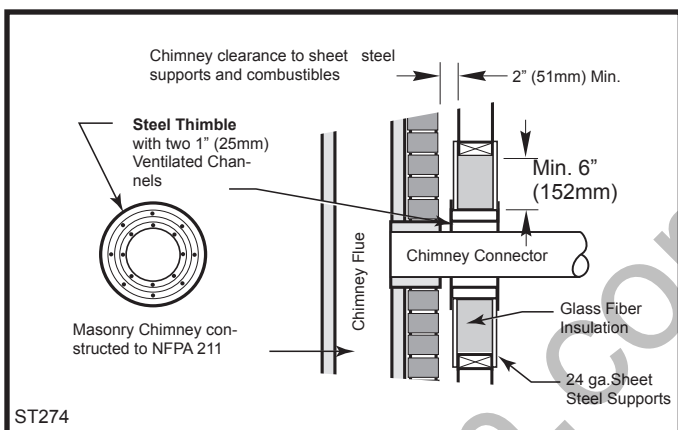

Fig. 9 Wall Pass-through using single wall chimney connector with a ventilated steel thimble.
- Placing a chimney connector pipe inside a steel double-wall ventilated thimble, which is then separated from combustibles by 6" (152 mm) of fiberglass insulating material. (Fig. 9)